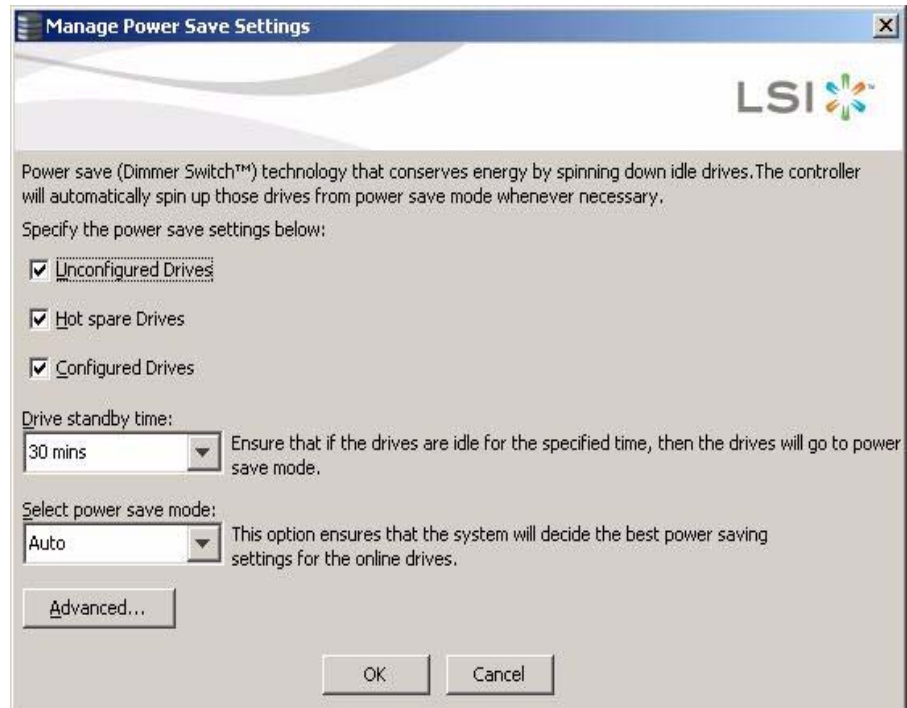

Figure 224: Manage Power Save Settings Window
If you do not specify the Power-Save settings in the Manage Power Save Settings window as shown in Figure 224, the following dialog appears.
1. Click the **Advanced** button in the Manage Power Save Settings window as shown in Figure 224.